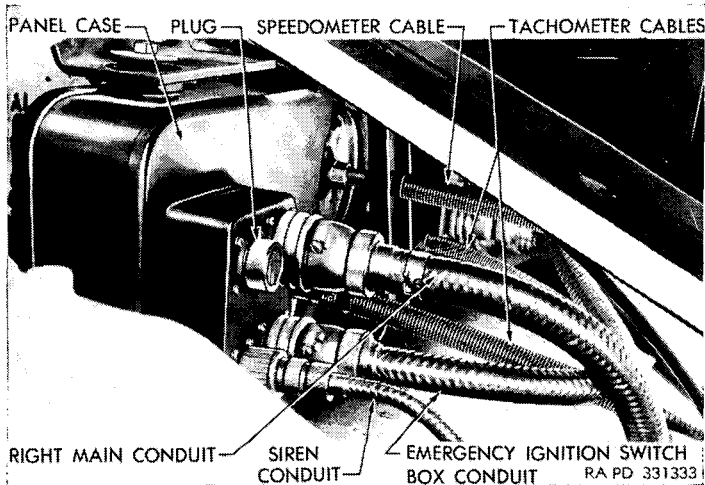

Figure 101. Cables and conduits at rear of instrument panel.
b. **INSTALLATION.** Install three flexible shafts for speedometer and tachometers. Connect six electrical conduits (figs. 101 and 102), making certain that plugs are correctly indexed. Position panel against and to the left of tapping blocks on hull front wall and slide to right, engaging slot at upper left bracket behind flat washer and lock washer of mounting cap screw. Install remaining cap screws: two at upper center bracket, one at upper right, and one at lower center. Tighten all screws securely.